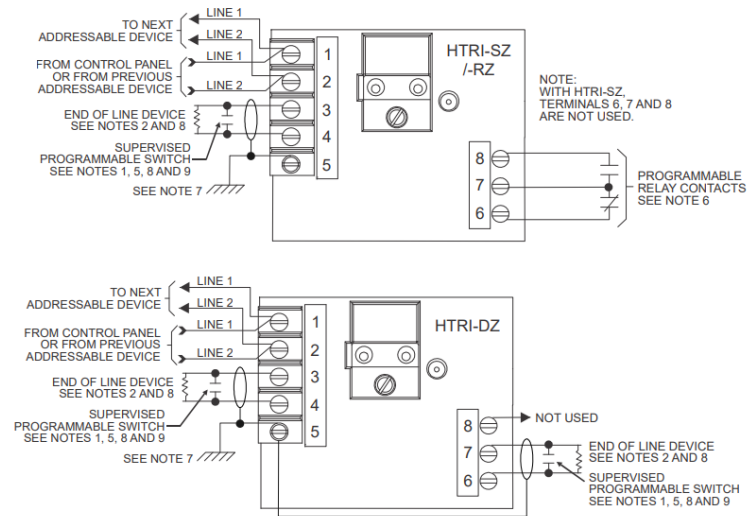

Figure 9
8. For proprietary burglary application (Refer to Figure 9):